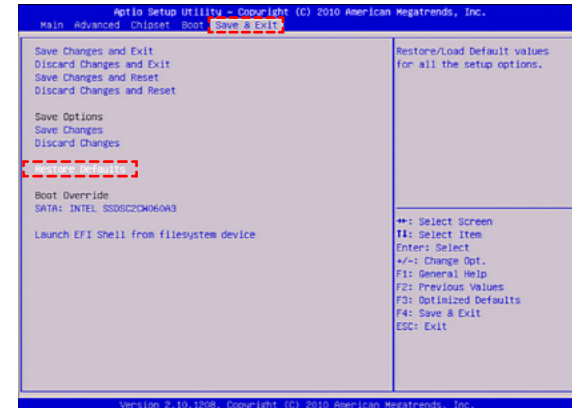

Figure 4-19 BIOS Screen
- 3.5 In the BIOS Setup utility, use the arrow keys to navigate to "Save & Exit," select "Restore Defaults" and press Enter (see Figure 4-19).